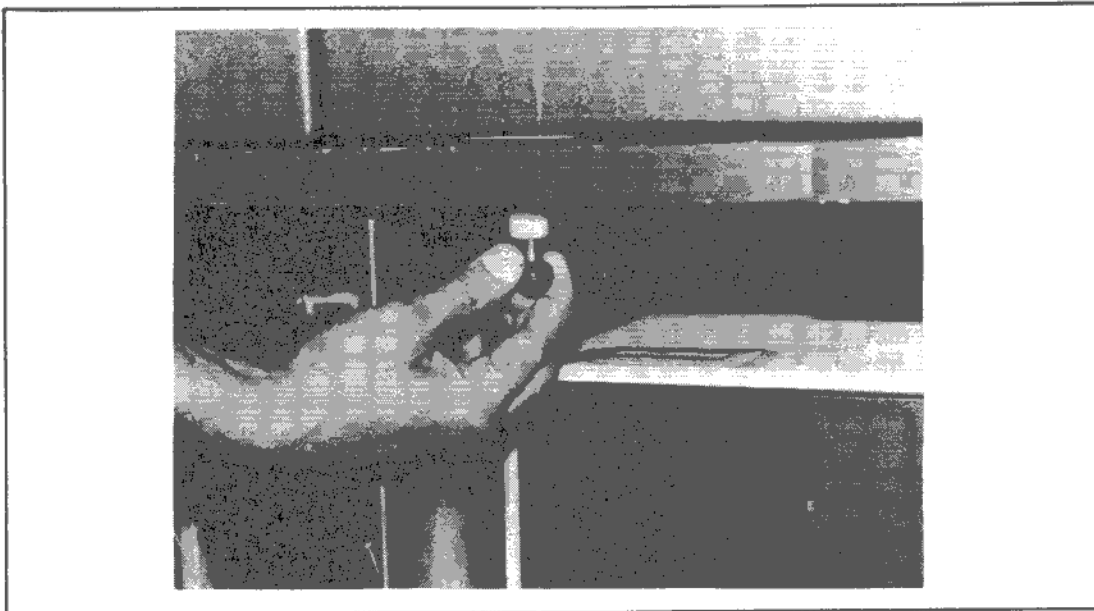

Figure 3-13. Release Cover Access Latch
1. With the safe door open, release the Cover Access Latch by pulling it vertically down (refer to figure 3-13).